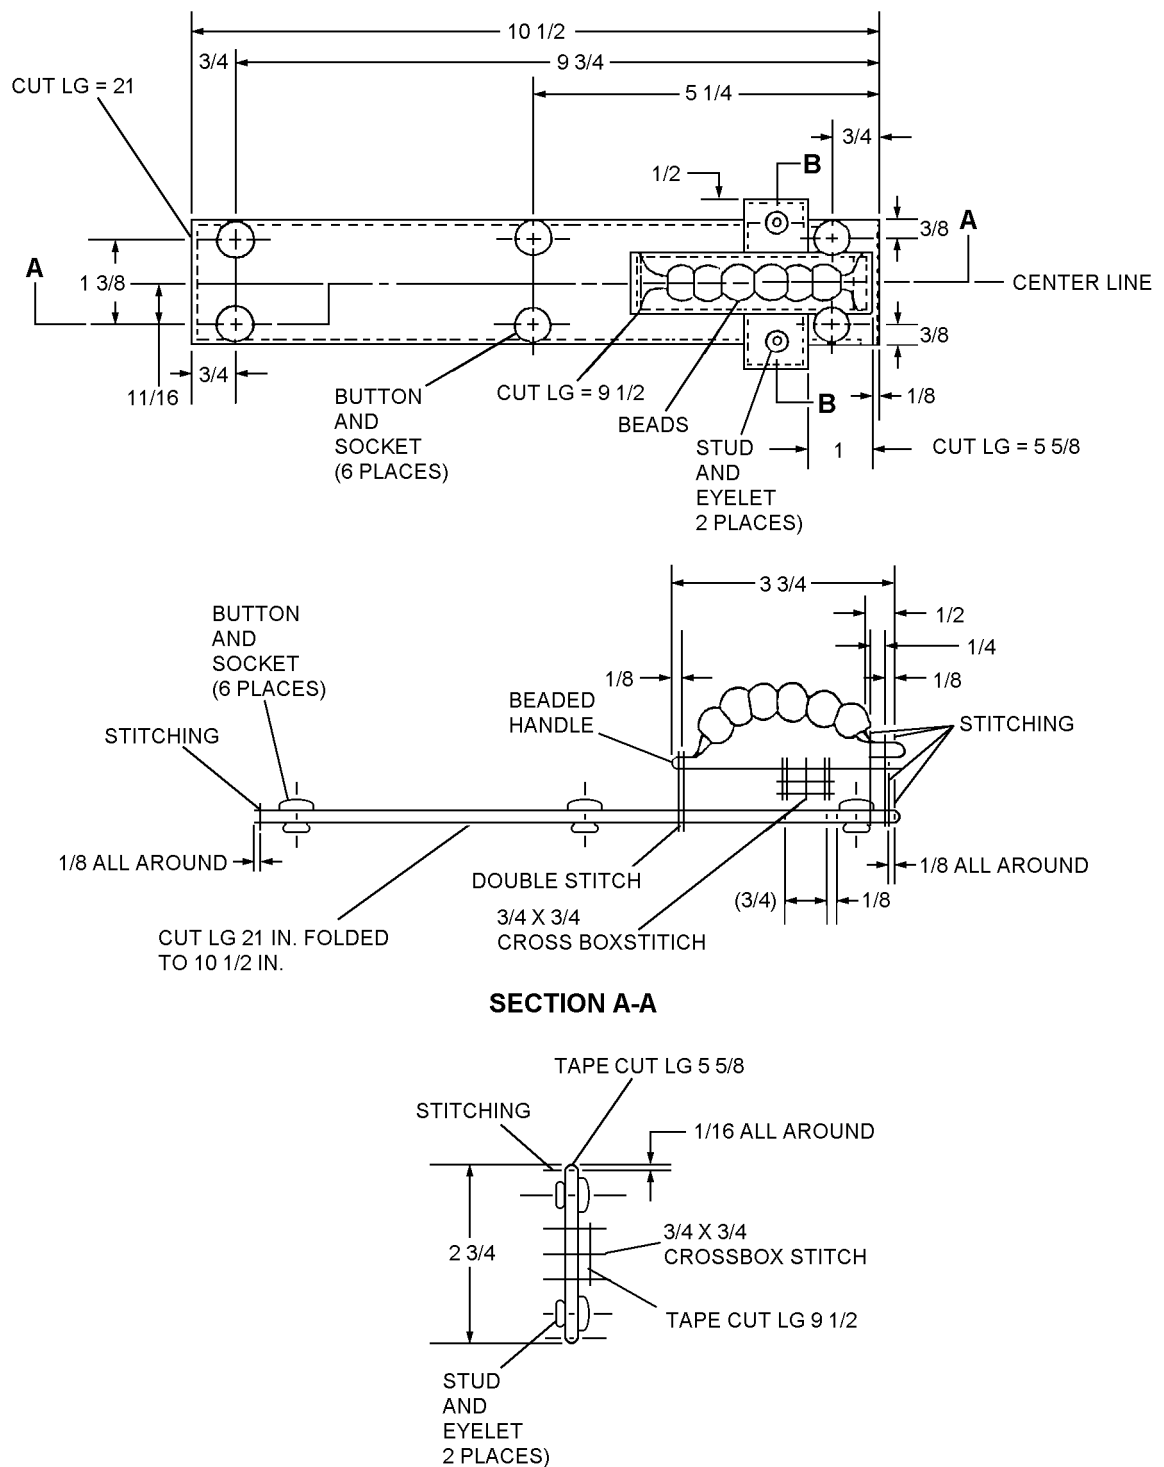

Figure 7-18. Armor Beaded Pull Handle
7-76. FABRICATION/REPAIR OF ARMOR BEADED PULL HANDLE (figure 7-18) Fabricate/repair armor beaded pull handle/quick-release assembly as follows:
a. Make a 1 3/8-inch fold from top down toward center and make 1 3/8-inch fold from bottom up toward center so ends meet. The folded tape should now be approximately 2 3/4 inches long (see figure 7-18).
c. Place 9 1/2-inch length of tape perpendicular to and centered on top of 2 3/4-inch tape completed in step 3b above. The right edge of the 2 3/4-inch tape shall be one inch from right end of 9 1/2 inch tape (see figure 7-18).
b. Position 9 1/2-inch assembly from step 3d on center line with right edge of 2 3/4-inch tape centered at 1 1/8-inch mark on center line. This will place the right end of 9 1/2-inch tape 1/8 inch from right end of 10 1/2-inch webbing centered on center line of webbing (see figure 7-18); single stitch end of tape in place using size E thread.
5. Install/replace snap fasteners (figure 7-18).